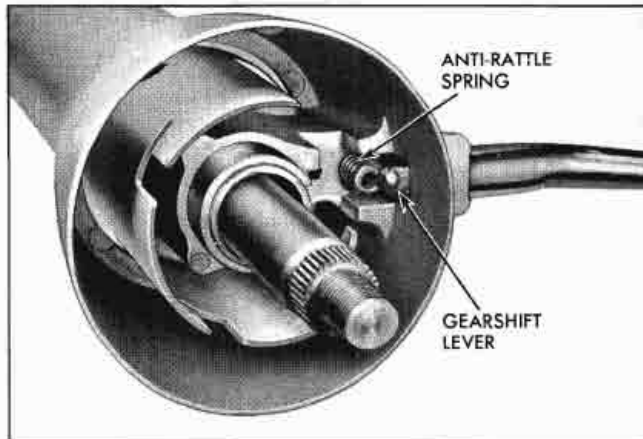

Fig. 7-21 Gearshift Lever Assembly
17. Remove gearshift lever and, using needle nose pliers, remove anti-rattle spring (Fig. 7-21).
14. Using needle nose pliers, insert gearshift lever anti-rattle spring in depression located in housing (Fig. 7-21).
15. Install gearshift lever, depressing anti-rattle spring as lever is inserted (Fig. 7-21). Shim stock placed over spring will aid in assembly of gearshift lever.